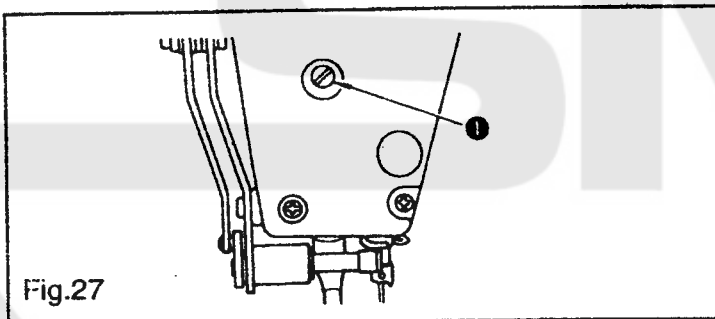

Fig.27
23.ADJUSTING THE HEIGHT OF THE PRESSER BAR (Fig.27)